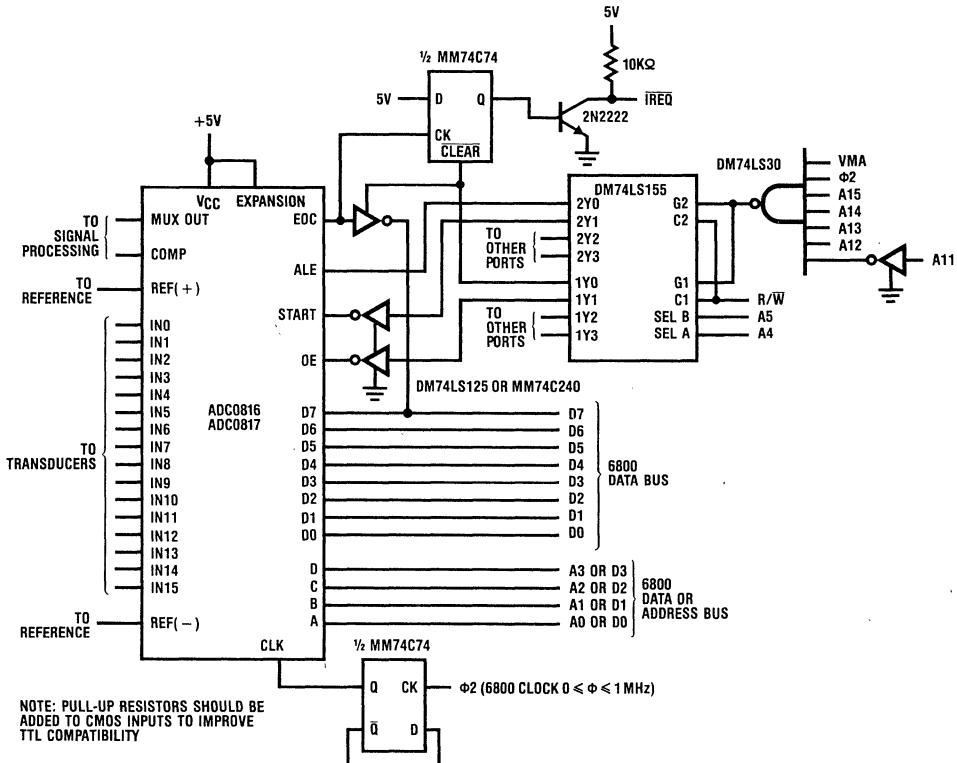

Figure 30. Partially Decoded 6800 to ADC0816/ADC0817 Interface
*Figure 30* is slightly more complex, but provides more I/O port strobes. A NAND gate and inverter are used to decode the addresses, VMA and  $\Phi_2$  clock. The I/O addresses are located at 1110XXXXAABBBB (Binary); where X = don't care; A = 00 (Binary) for ALE write or Data read and A = 01 for START write or IREQ reset/EOC read; and B = channel select address if A, B, C and D are connected to the address bus and ALE is accessed. A dual 2-4 line decoder is used to generate these strobes and inverters are used to create the correct logic levels.